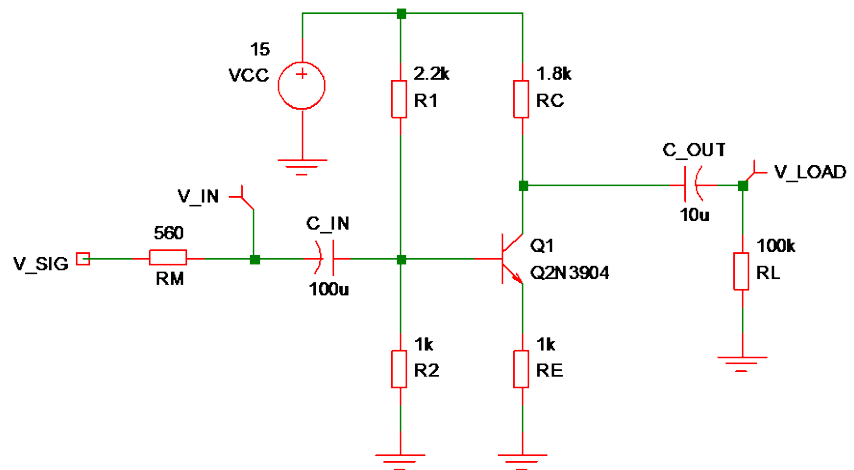

Fig. 2: Common emitter amplifier with the 2N3904 transistor.
- Step 2a: Build the biased common emitter amplifier shown in Fig. 2.
- Measure V_{LOAD} with CH1 and V_{IN} with CH2 (see Fig. 2).